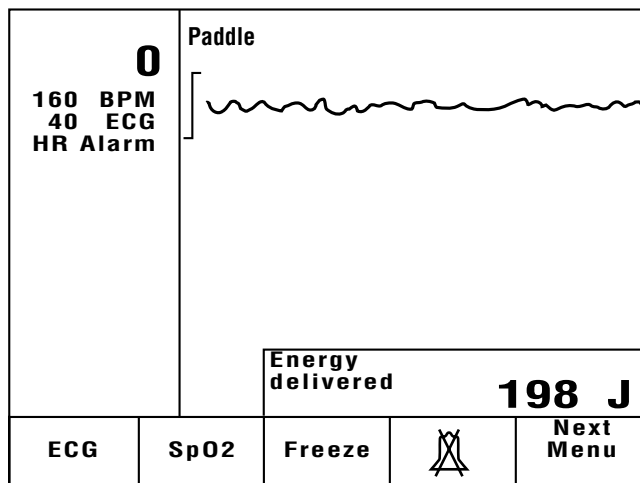
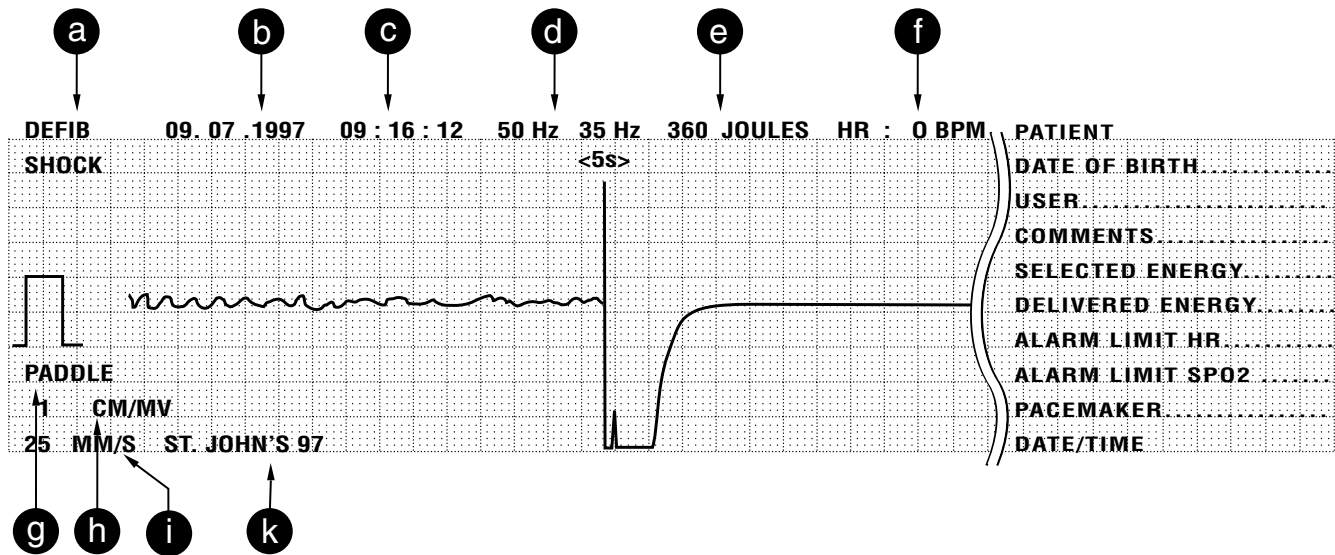

Figure 4-6. Display of delivered energy
Figure 4-7. Example of a recording initiated by a defibrillation pulse
- After defibrillation, the beeping sound stops, and the energy actually delivered is displayed for 10 seconds in place of the stored energy (Figure 4-6). At the same time the recorder writes a 16-second ECG (including a history of 4 seconds) (adjustable, Figure 4-7). **CardioServ** saves this recording (4 s history, 5 s blanked, 10 s after release of shock), and it can be printed off again at any time. Also refer to section 7 “The Memories of CardioServ”.